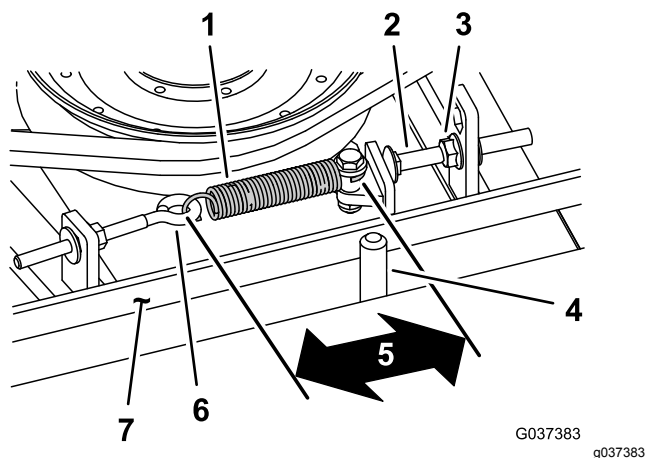

Figure 114
When properly tensioned, the inside measurement of the extension spring (hook to hook) should be approximately 8.3 to 9.5 cm (3-1/4 to 3-3/4 inches). Once the correct spring tension is attained, adjust the stop bolt (carriage bolt) until there is approximately 2 to 5 mm (0.065 to 0.185 inch) clearance between the head of the bolt and the idler arm (Figure 114).
Note: Ensure that the belt is positioned on the spring side of the belt guide (Figure 114).
2. Loosen the eye bolt (Figure 114).
3. Loosen the flange nut securing the stop bolt to the mounting tab and move the idler pulley away from the belt (Figure 114).
9. Connect the extension spring (Figure 114) to the eye bolt and tension the belt as follows: